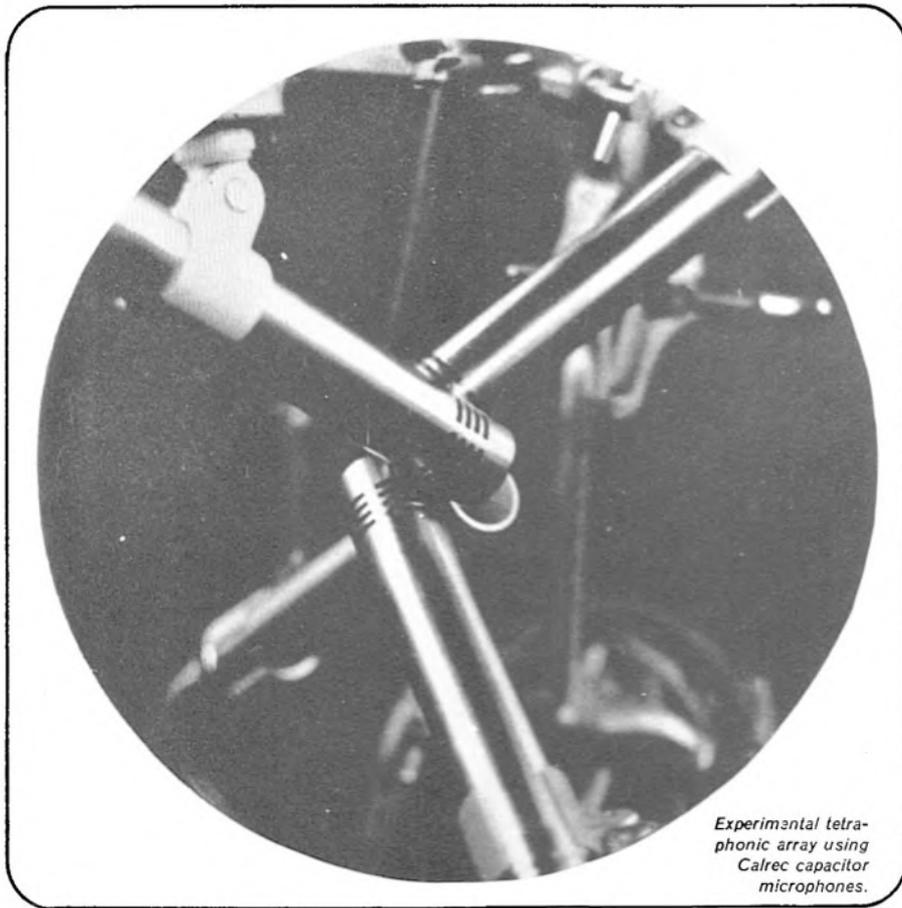

FIG. 4 V-SHAPE FORMED BETWEEN PAIR OF TETRAHEDRAL MICROPHONES SHOWING ALIGNMENT TEMPLATES
The subsequent discussion assumes that the microphones used have a cylindrical shape with the capsules mounted at one end, as in the AKG C451, Calrec 652 and Calrec 1050 microphones. The simplest way of making such microphones 'coincident' is to make them face into one another, but this would cause a tetrahedral cavity to be formed between them which would cause coloration. To avoid this, it was deemed necessary (perhaps wrongly!) to use the type of 'coincidence' shown in the photo, in which the V-shape formed by one pair of microphones (as in **fig. 4**) interlocks
(1) The angle between every pair of microphones should be 109.5° , which can be checked using 109.5° angle templates as illustrated in fig. 4. The lower template in fig. 4 has its angle vertex cut off to permit use when the other pair of microphones is in place.